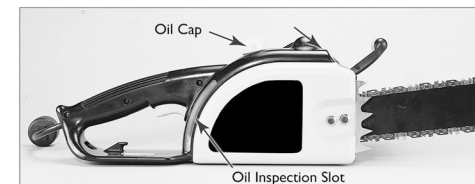

Fig. 6
**NOTE:** Your chain saw is equipped with an Automatic Oiler system and is the ONLY source of lubrication for the bar and chain (Fig. 6)